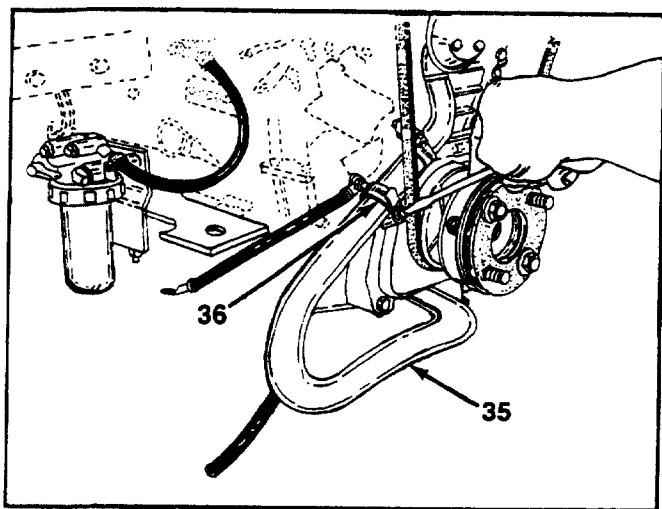

FIGURE 22.
20. Loosen the hose clamp at lower radiator hose and remove hose. See figure 22.